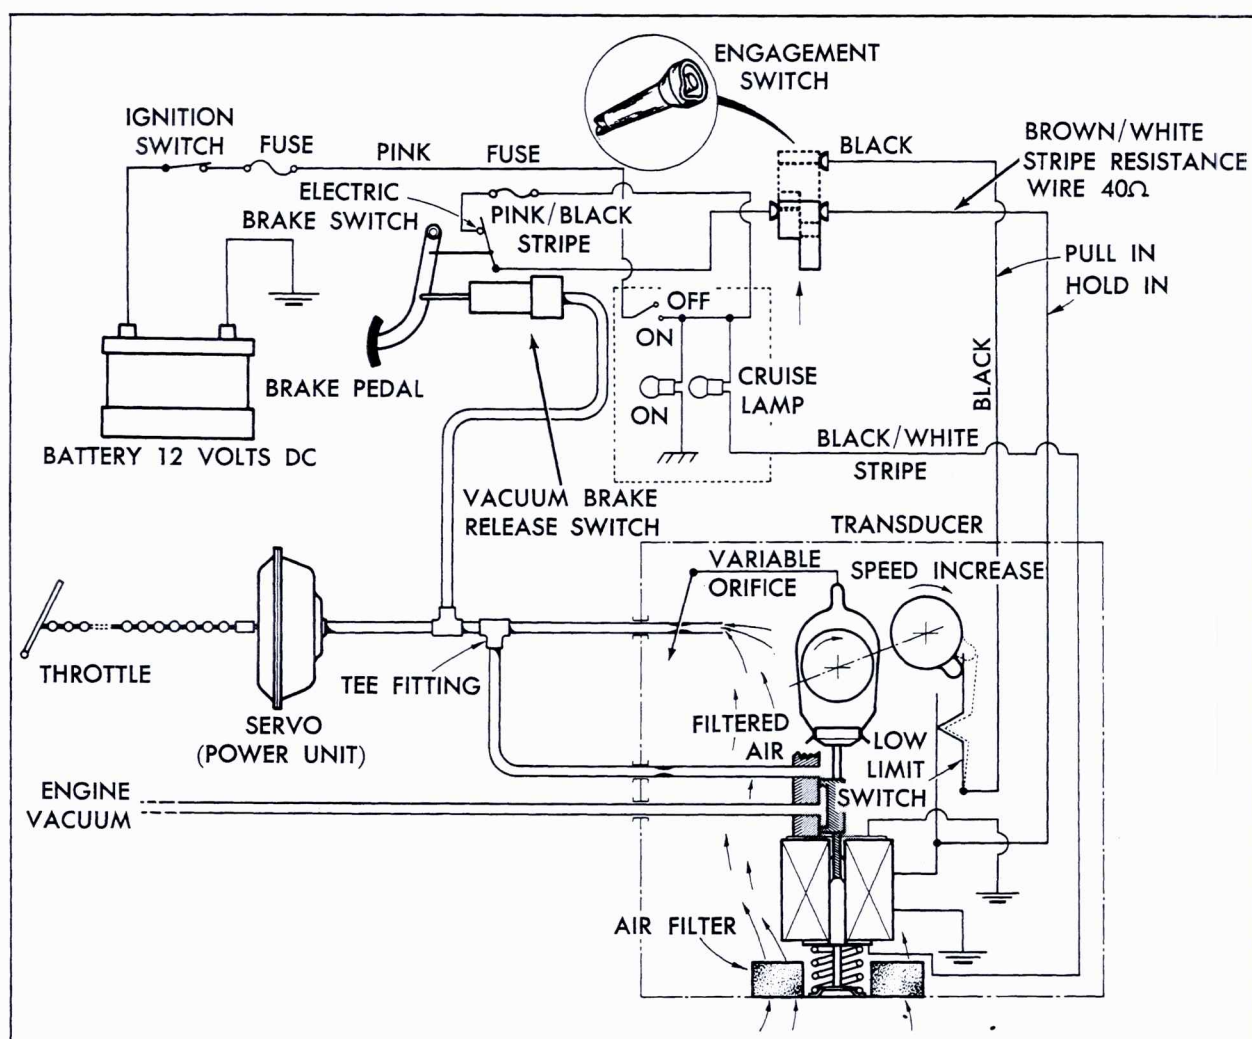

Fig. 15-32 Vacuum & Electrical Diagram
40. Servo and Vacuum Check Out (Fig. 15-32)